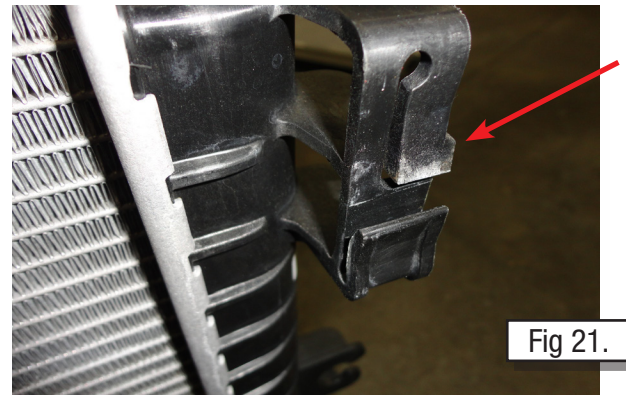

Fig 21.
23. Gently move the radiator back towards the engine of the car in order to gain access to the A/C condenser. Depress the two plastic clips towards the top of the radiator that are holding the condenser in place (Figs. 21 & 22). While depressing the clips slide the condenser up and then place it forward of the radiator once it clears the mounts.